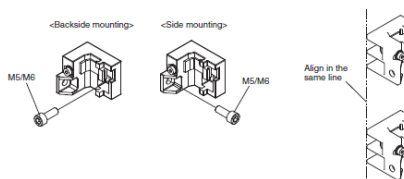

Fig. 3
3. Securely tighten screws to fix the Side-Mount Bracket to the mounting position of the wall surface. When using more than one Side-Mount Brackets, align them in the same line using the sides of the brackets that do not face the wall, before attaching the brackets to the sensor. (Fig. 3)